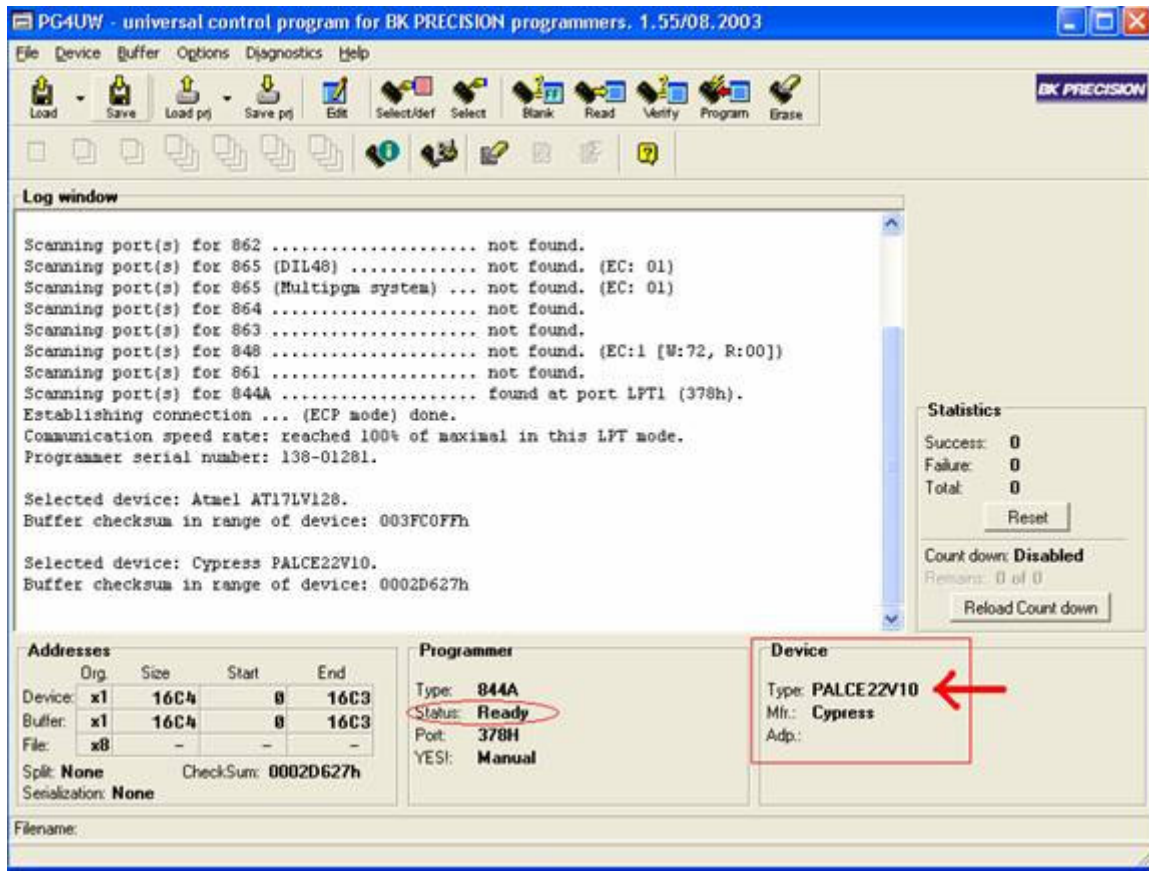

Figure 12
17. From the programs menu go to BK PRECISION and open the program BK4uw. After BK PRECISION opens and finds the programmer, verify the programmer is working by looking on the “programmer” box in the bottom of the window under status (red circle in Figure 12) it should say “ready,” if it doesn’t contact the course staff. **IMPORTANT:** Verify the programmer is setup for your PAL by looking at the “Device” window located at the bottom of the screen (red arrow in Figure 12) and making sure the program lists “Cypress PALCE22V10” as the Device. If the Cypress PALCE22V10 is listed SKIP step #4 and go to step #7. If another device is listed go to step #4.